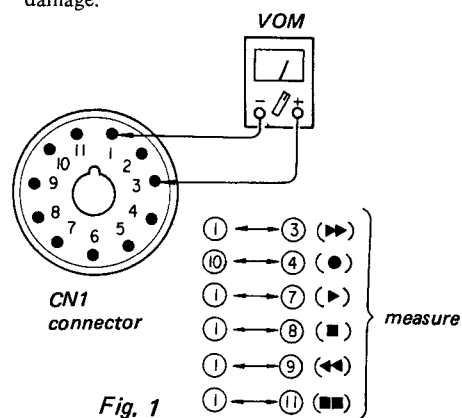

Fig. 1
2. Connect VOM as shown in Fig. 1. Then, push the each button one after another.
1. Action of IC701 (CX738) (Refer to Fig. 1)
Fig. 1 indicates the output in each mode by a logic value.